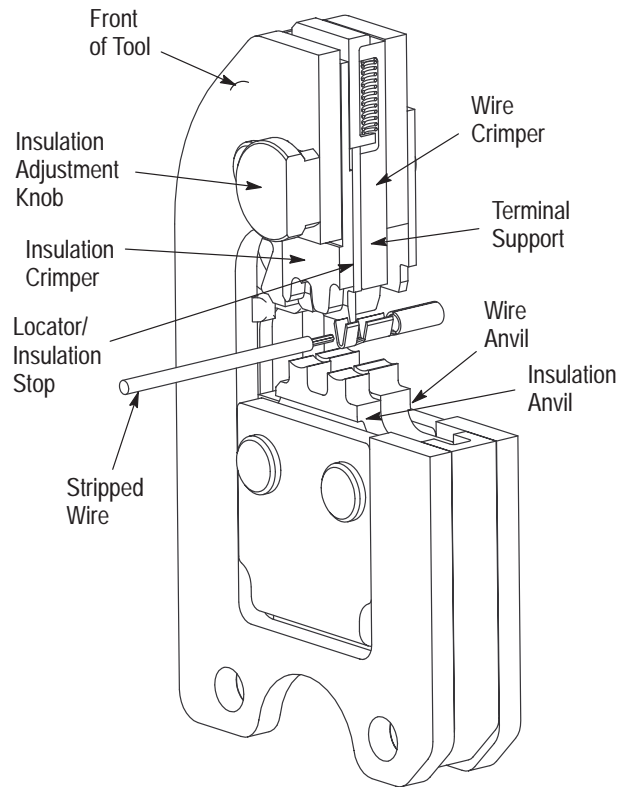

Figure 1
The tool features a fixed die (crimper), a movable die (anvil), a locator/insulation stop, and a CERTI-CRIMP ratchet. Many tools feature an insulation adjustment knob which is used to regulate the crimp height of the contact insulation barrel during the crimping operation. The locator/insulation stop positions the contact, and limits the insertion distance of the stripped wire into the contact. In use, the locator/insulation stop rests in the locator slot of the contact (See Figures 1 and 2). The CERTI-CRIMP ratchet assures full crimping of the contact. Once engaged, the ratchet will not release until the dies have been fully closed.
4. Position the contact between the crimpers so that the locator/insulation stop enters the slot in the contact. The wire barrel should butt against the locator/insulation stop. Refer to Figures 1 and 2.
On many tools, the insulation barrel crimp height is regulated by the insulation adjustment knob (Figure 1). The insulation crimp should hold the insulation firmly without cutting into the insulation. To determine the proper insulation crimp setting, test crimp a loose piece contact using the setting which corresponds to the insulation diameter: (1) — small; (2)
5. Check the clearance between the bottoming surfaces of the wire crimper and the wire anvil. See Figure 1. If the clearance is 0.025 mm [.001 in.] or less (on at least two of the bottoming surfaces), the ratchet is satisfactory. If clearance exceeds 0.025 mm [.001 in.], the ratchet is out of adjustment and must be repaired. See Section 5.